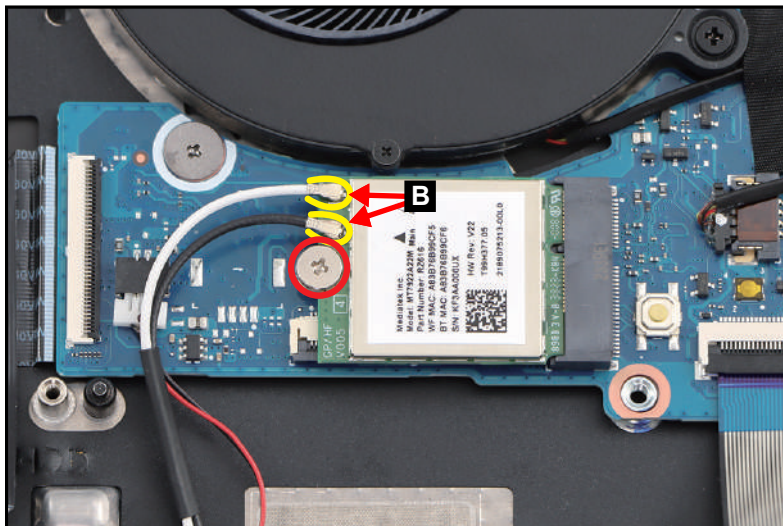

Figure 3-25. WLAN Module Removal
2. Disconnect the WLAN antennas cables from the WLAN module connectors (B) (Figure 3-25).
3. Remove one (1) screw securing the WLAN module in place (Figure 3-25).